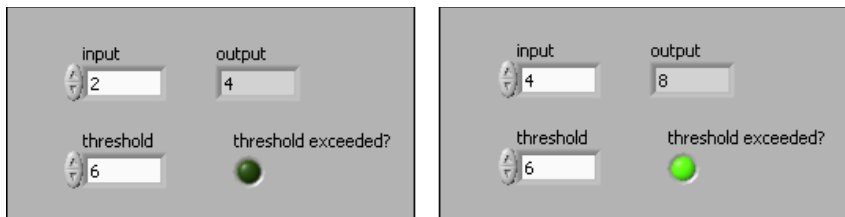

Figure 6. LED Lights when Output Exceeds Threshold
5. Enter different values in the **input** numeric control. In Figure 6, the **output** value on the left does not exceed the **threshold** value. If you change the **input** value so that the **output** value is greater than the **threshold** value, the **threshold exceeded?** LED lights.